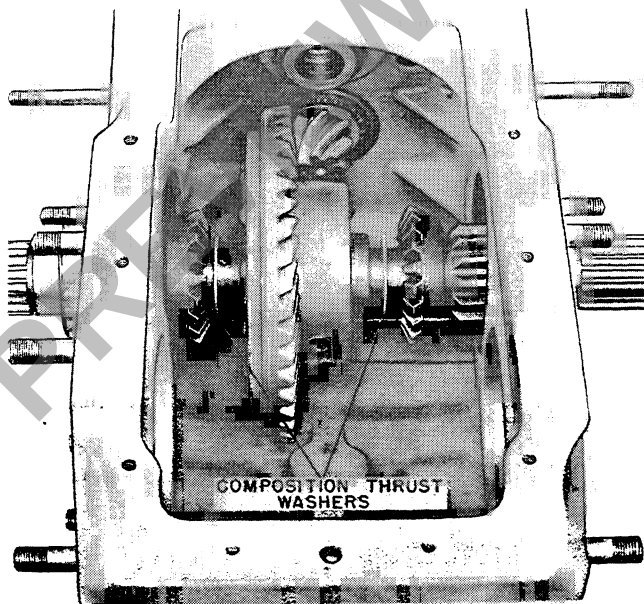

Figure 55. Installing Differential
3. Place the composition washers (and shims, if required) on the differential shaft and install the side gears in place, Figure 55.